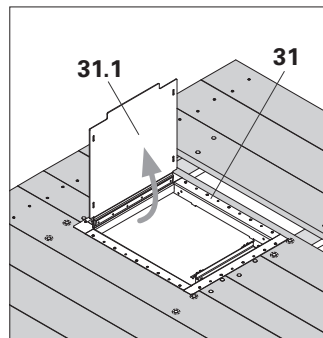

Fig. A1.11a
1. Place Hatch RCS 55 x 60-2, foldable (31) in the prepared recess. When opened, the hatch cover (31.1) points to the wall side. (Fig. A1.11a)
2. Screw on hatch frame and planking with approx. 20x TORX 6 x 40 (35).